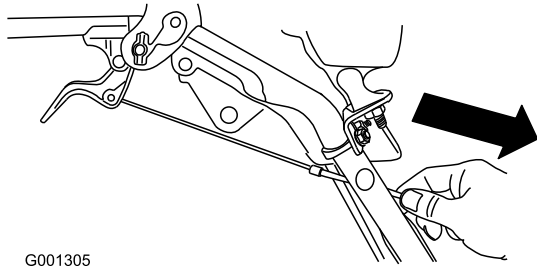

Figure 9
4. Pull the cable jacket down gently until the wheel-clutch lever is down and the slack is out of the cable, then tighten the cable-clamp nut securely (Figure 9).